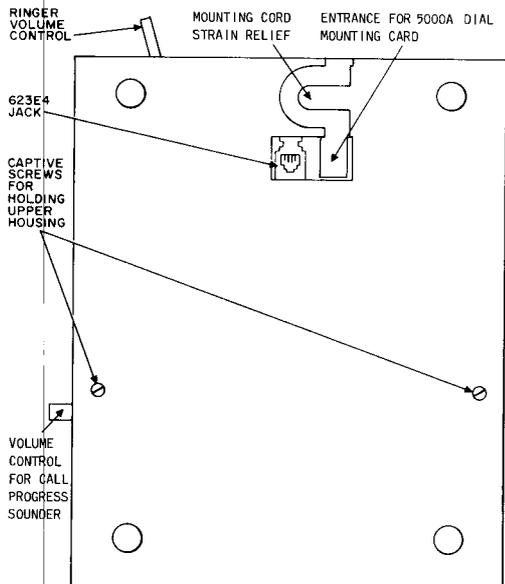

Fig. 3—Bottom of 5100AM Transaction II Telephone Base Showing Upper Housing Screws and Mounting Cord Jack
- (1) Disconnect power plug from AC outlet, if connected.
- (2) Invert set and loosen the two captive screws holding the upper housing and chassis (Fig. 3).
(6) Pull slack out of mounting cord as upper housing and chassis are replaced. Invert set and tighten captive screws holding the upper and lower housing together.
(7) Place jacketed portion of mounting cord under strain relief as shown in Fig. 3.